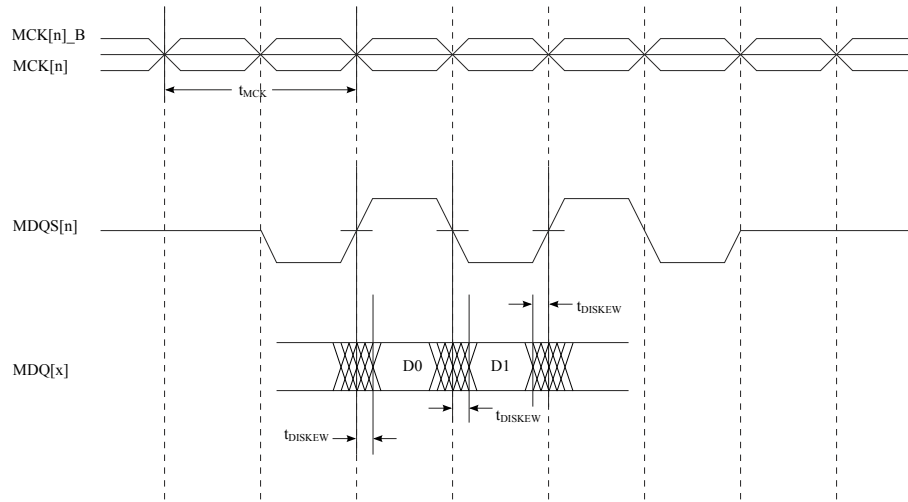
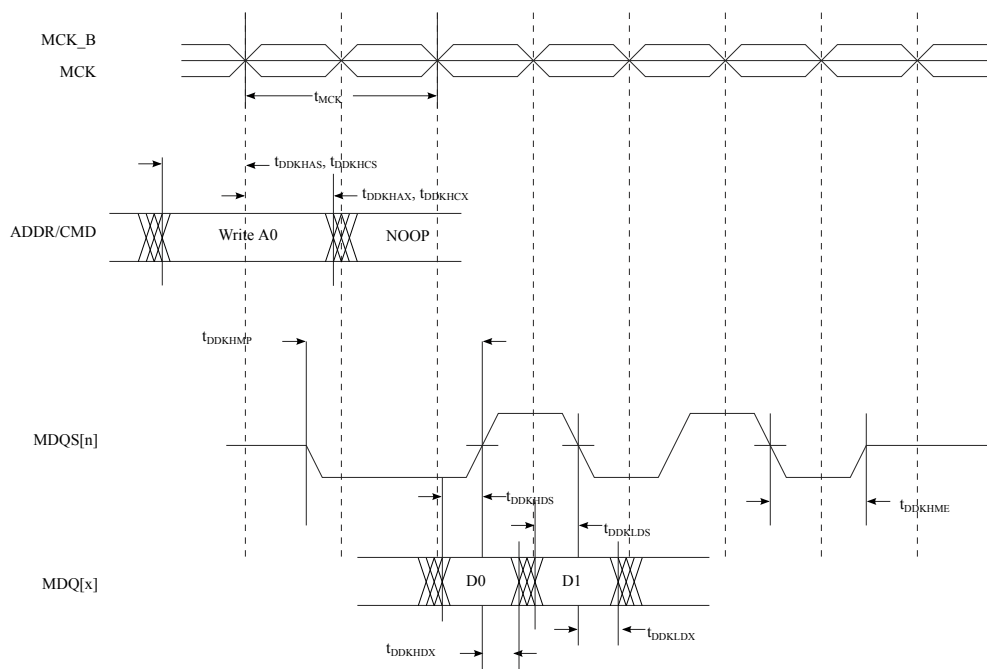

Figure 12. DDR4 SDRAM interface input timing diagram
Figure 13. DDR4 SDRAM interface output timing diagram
3. See Figure 12.
2. See Figure 12.
4. The symbols used for timing specifications follow the pattern of $t_{(first\ two\ letters\ of\ functional\ block)(signal)(state)\ (reference)(state)}$ for inputs and $t_{(first\ two\ letters\ of\ functional\ block)(reference)(state)(signal)(state)}$ for outputs. Output hold time can be read as DDR timing (DD) from the rising or falling edge of the reference clock (KH or KL) until the output went invalid (AX or DX). For example, t_{DDKHAS} symbolizes DDR timing (DD) for the time t_{MCK} memory clock reference (K) goes from the high (H) state until outputs (A) are setup (S) or output valid time.
6. See Figure 13.